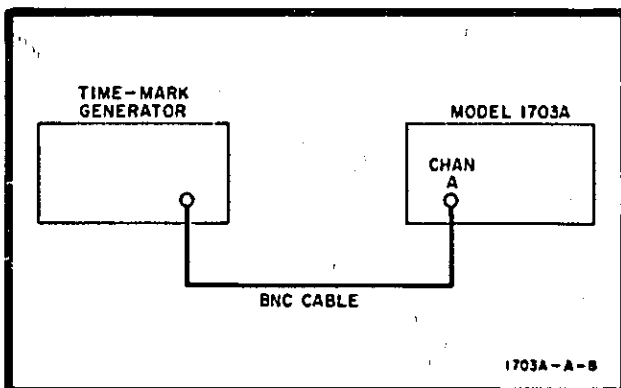

Figure 5-9. Main Sweep Time Test Setup
- a. Connect instruments as shown in figure 5-9.